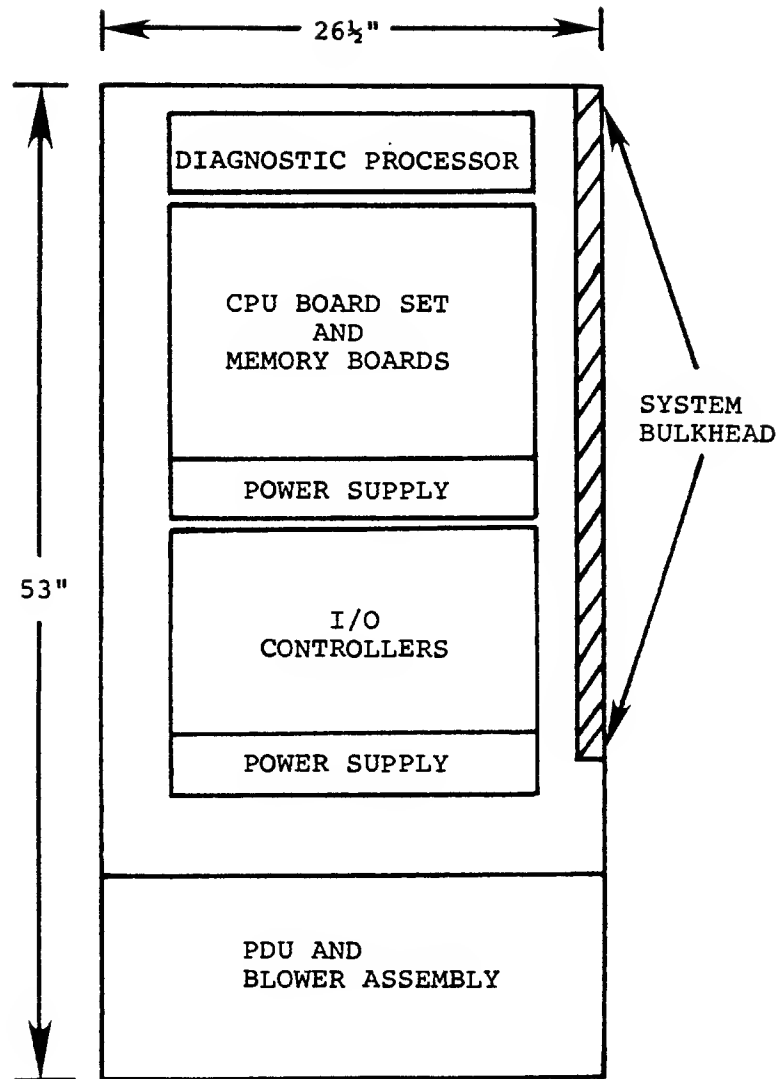
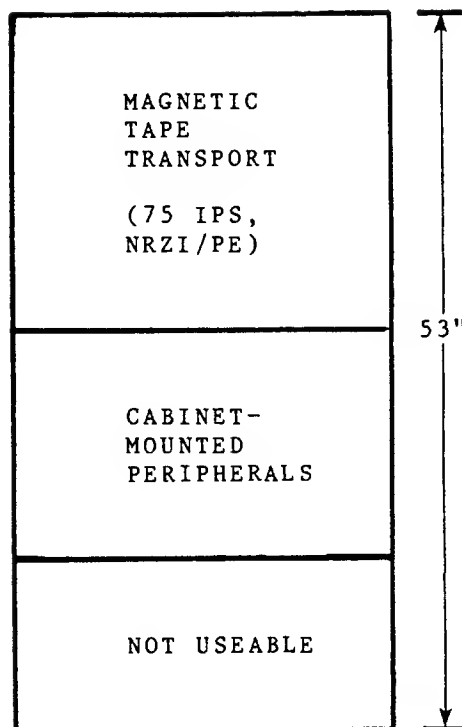

Figure 5-8. 9655 System Cabinet Space Allocation
Figure 5-10. 7651F Peripheral Cabinet with NRZI/PE
The 9655 utilizes a Product Number 7650F system cabinet (Figure 5-8) and a Product Number 7651F* and/or 7564S* peripheral cabinet(s), (Figures 5-10 and 5-11). The standard configuration for the 9655 is described below.
The 7651F Peripheral Cabinet is used to house 50 Series rack-mounted peripherals, and is being replaced by the 7564S Peripheral Cabinet. Mounting space in the peripheral cabinet(s) is allocated in the following priority order: magnetic tape transports, disk drives, and other optional devices that are installed in the upper half of the cabinet. All unused space, from the bottom of the installed peripheral(s) to the bottom of the cabinet, is enclosed using filler panels. Space allocation and configuration requirements for the major peripheral devices installed in the peripheral cabinet(s) are illustrated in Figures 5-10 and 5-11.
- Magnetic Tape Transport - The magnetic tape transport (MTT) is installed in the upper portion (upper 24-1/2") of the cabinet, as illustrated in Figure 5-10. Only one MTT may be installed per cabinet.
If a magnetic tape transport (MTT) is installed in the cabinet, one cabinet-mounted device may be installed in the 10-1/2 inch space below the MTT, as shown in Figure 5-10.